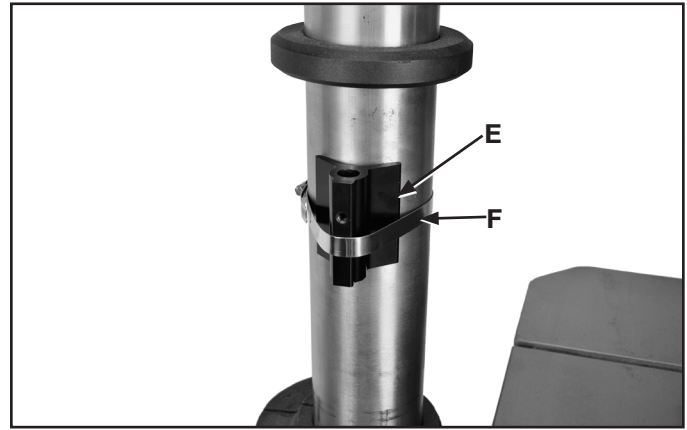

Fig. 3
1. Fasten column bracket (E) Fig. 3, to drill press column using clamp (F) supplied, as shown. **NOTE:** the vertical location of the column bracket (E) on the column can vary.